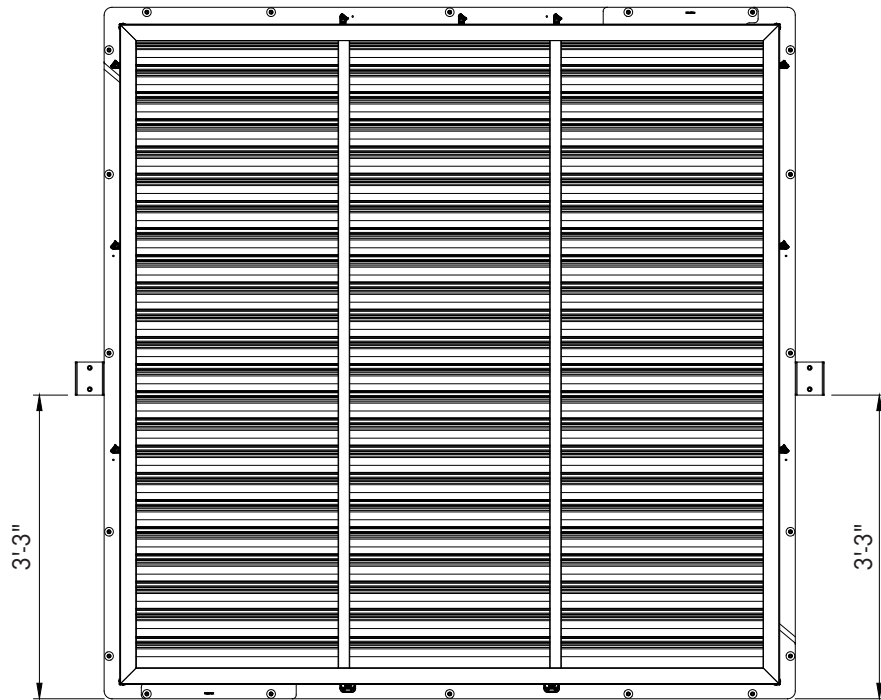
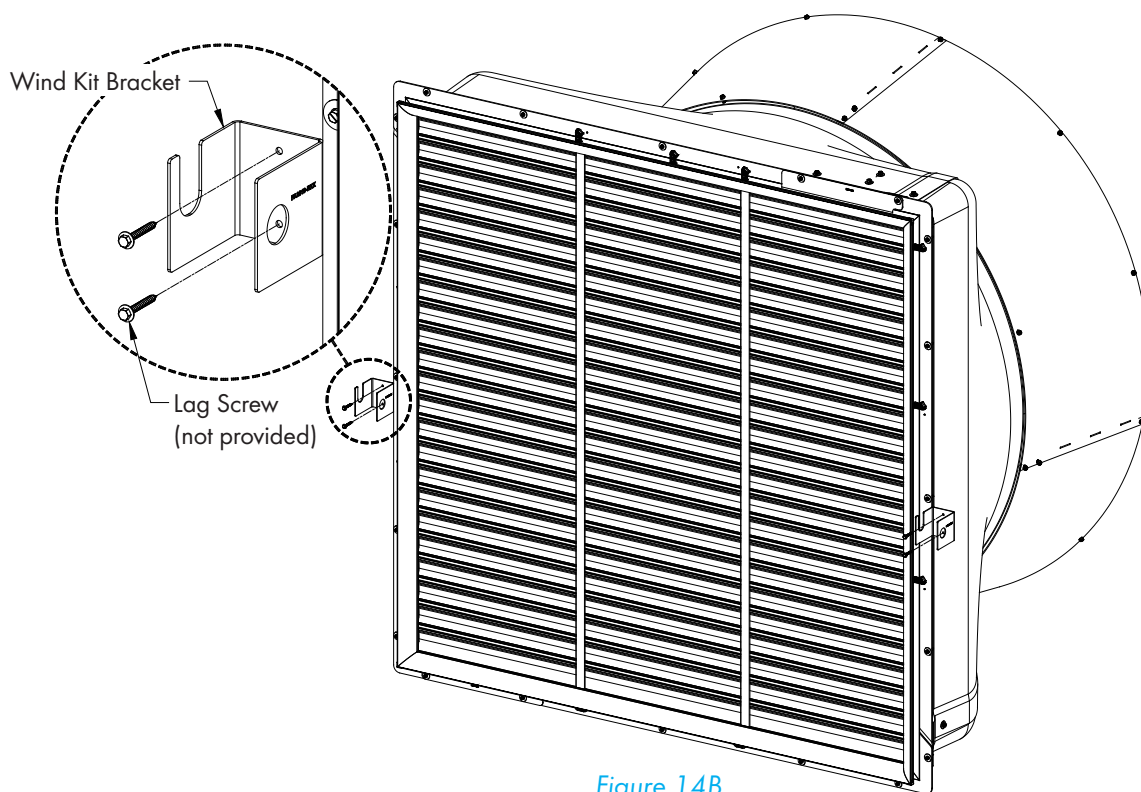

Figure 14A
Figure 14B
Mount one Wind Kit Bracket on each side of fan, 3'-3" above the bottom flange of fan. The opening in the 'U' slot should be facing up and each Bracket should be mounted in same direction. *See Figure 14A.* Fasten Brackets in place using (2) Lag Screws (not provided). *See Figure 14B.*